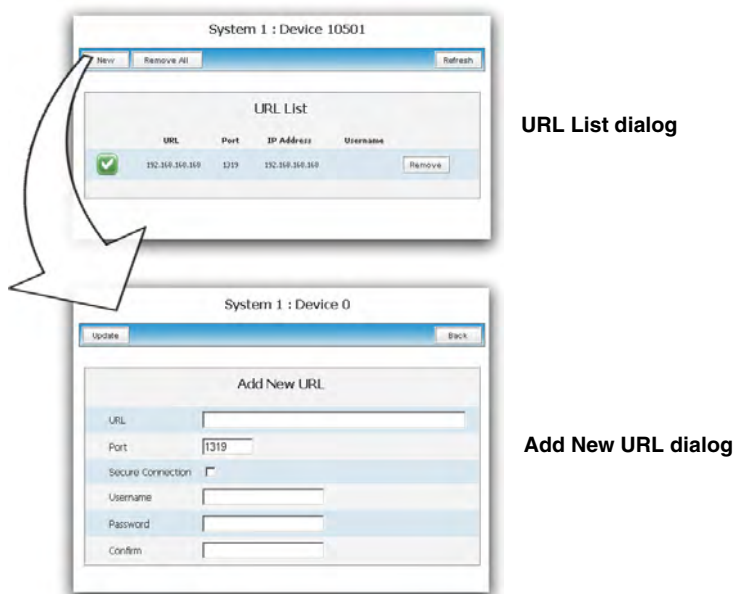

FIG. 60 URL List dialog
3. Click the **URL List** button to open the URL List dialog (FIG. 60). This dialog allows the user to view, add, and remove URLs from the specified devices URL list.